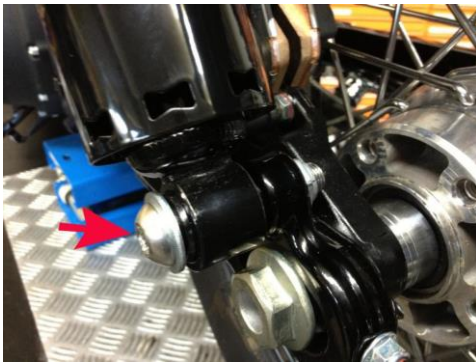

Abb. 1
2. loosen the lower fastening screw of the left shock absorber - this is replaced by the screw supplied by Cult-Werk. (Abb.1)